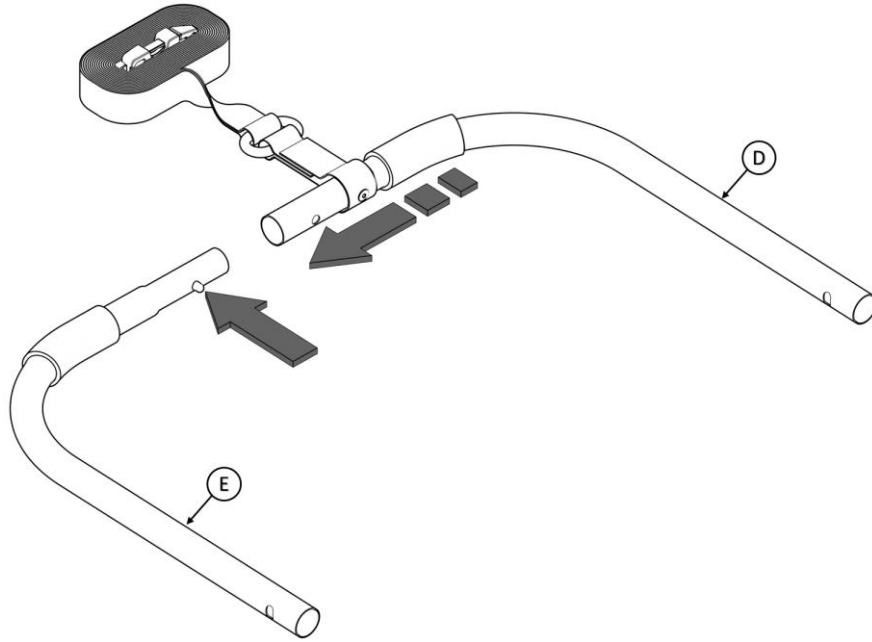

FIGURE 3
3. Attach **D** to **E** as shown in *FIGURE 3* until the spring pin engages.